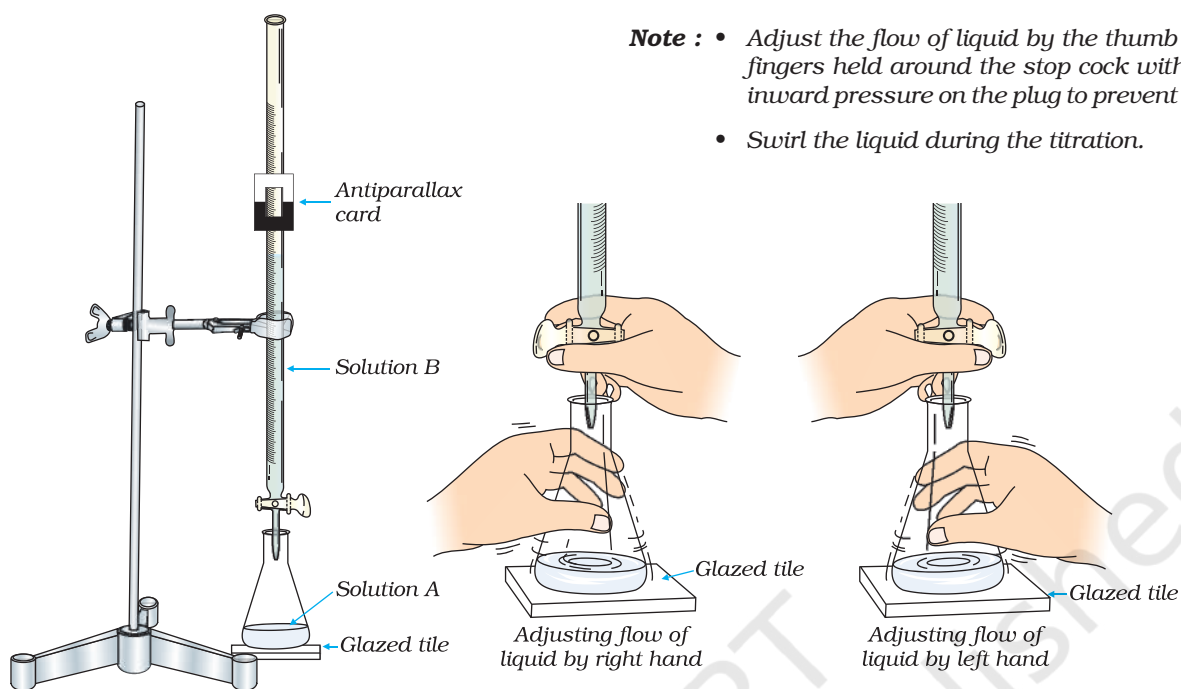

Fig. 6.3 : Titrating the solution
- (vii) Add 1-2 drops of phenolphthalein indicator to the conical flask. Place the flask over the glazed tile as shown in Fig. 6.3 Titrate the acid with sodium hydroxide solution till a very faint permanent pink colour is obtained. Add sodium hydroxide solution in small amounts initially and then dropwise.